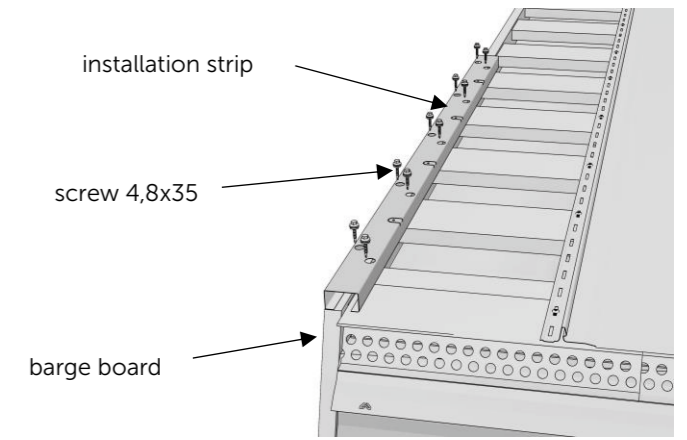

Fig. 13a
- Mount the installation strip using 4.8x35 screws (Fig. 13a).